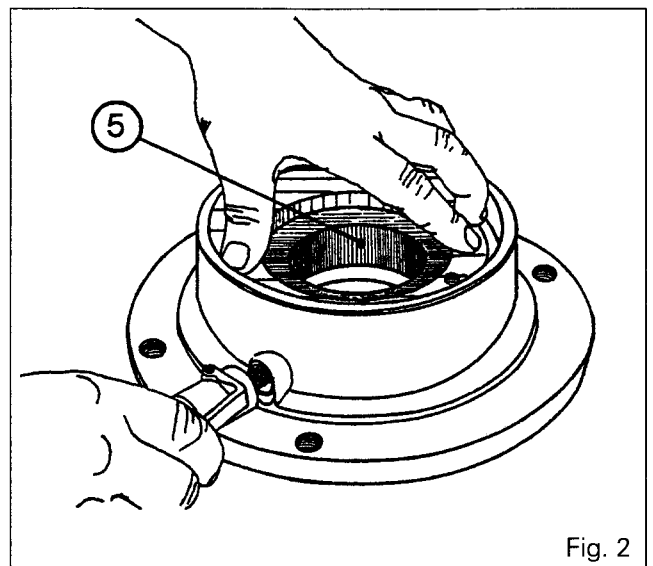

Fig. 2
5. Withdraw the bearing cup (14) and the deflector [13].
6. Remove the circlip (4).
7. Withdraw the piston (5) with the aid of a jet of compressed air (Fig. 2).
8. Remove the O-rings (3), (8) and (1).
9. Unscrew the finger (12) (if necessary).